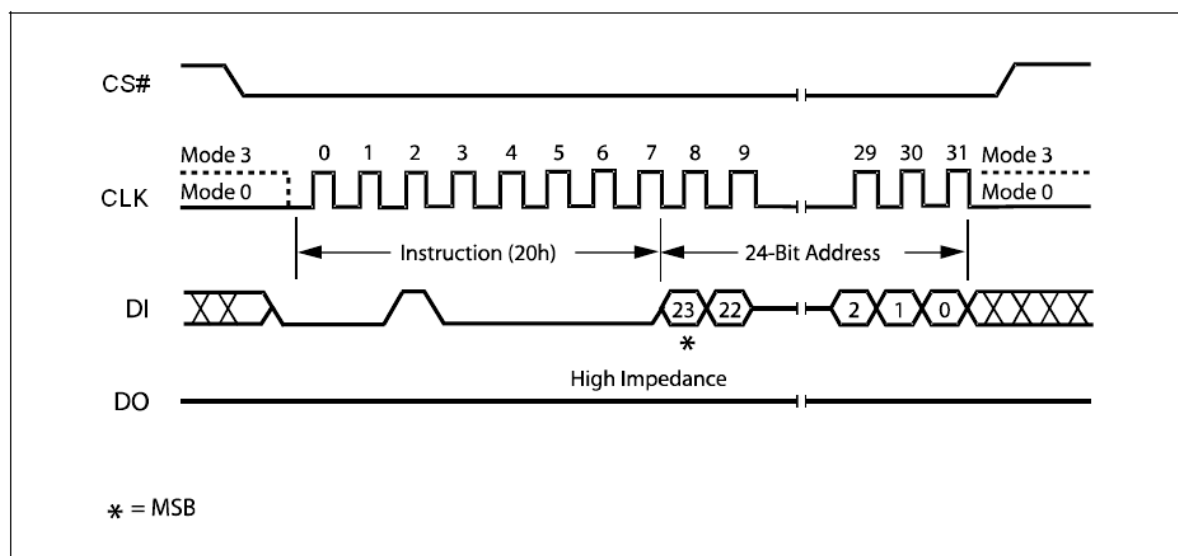

Figure 17. Sector Erase Instruction Sequence Diagram
The instruction sequence is shown in Figure 17. Chip Select (CS#) must be driven High after the eighth bit of the last address byte has been latched in, otherwise the Sector Erase (SE) instruction is not executed. As soon as Chip Select (CS#) is driven High, the self-timed Sector Erase cycle (whose duration is t_{SE}) is initiated. While the Sector Erase cycle is in progress, the Status Register may be read to check the value of the Write In Progress (WIP) bit. The Write In Progress (WIP) bit is 1 during the self-timed Sector Erase cycle, and is 0 when it is completed. At some unspecified time before the cycle is completed, the Write Enable Latch (WEL) bit is reset.